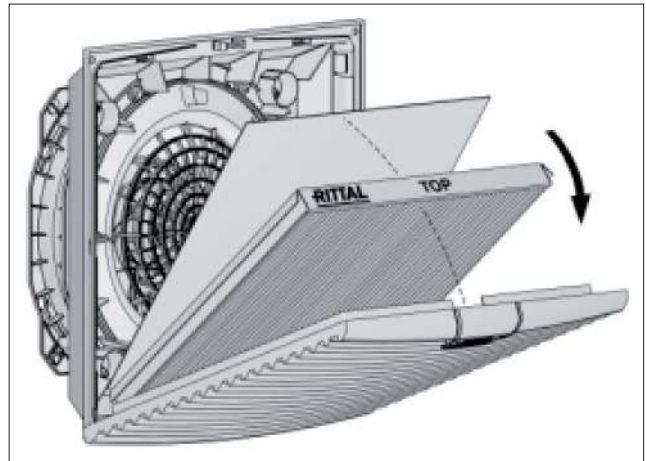

Fig. 9: Installing the IP 55 pleated filter
- For IP 55 only: place the IP 55 absorbent fleece supplied with the pleated filters on the previously placed pleated filter (see fig. 9). The installation direction of the absorber is not critical.